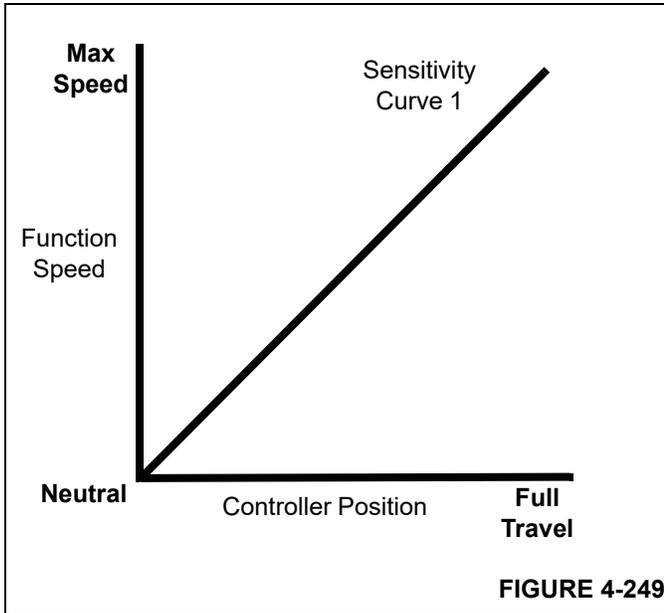
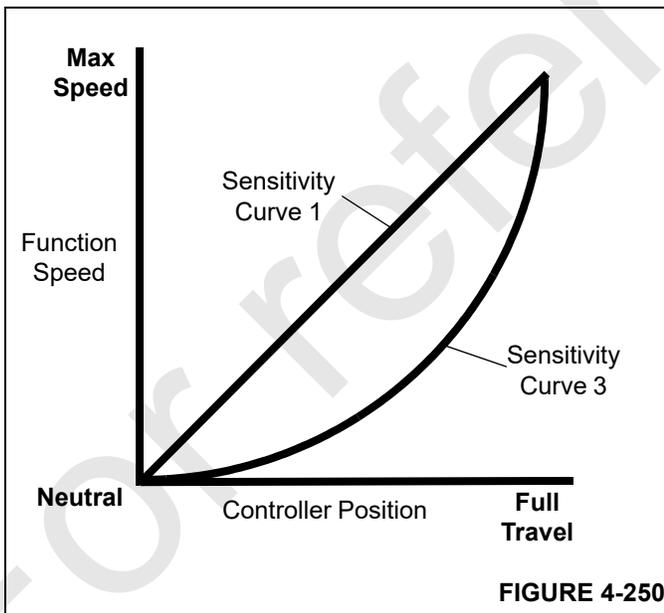
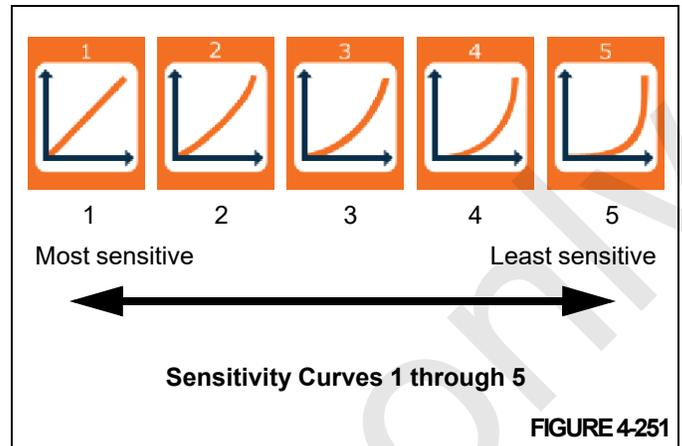

FIGURE 4-249
FIGURE 4-250
FIGURE 4-251
Five different sensitivity curves are available to select from (curves 1 through 5), (Figure 4-251). Sensitivity curve 1 is the default curve and causes the function speed to increase or decrease equally with an equal amount of movement of the controller (Figure 4-249).
Selecting a sensitivity curve of 2 through 5 (Figure 4-251) causes the function speed to be reduced, from the default sensitivity curve 1, relative to the same controller position over the full travel of the controller (Figure 4-250).
Sensitivity curve 1 (default) is the most sensitive and sensitivity curve 5 is the least sensitive (Figure 4-251).
3. Using the Jog Dial or the Up/Down Arrow Buttons, select one of the five possible sensitivity curves (Figure 4-251).